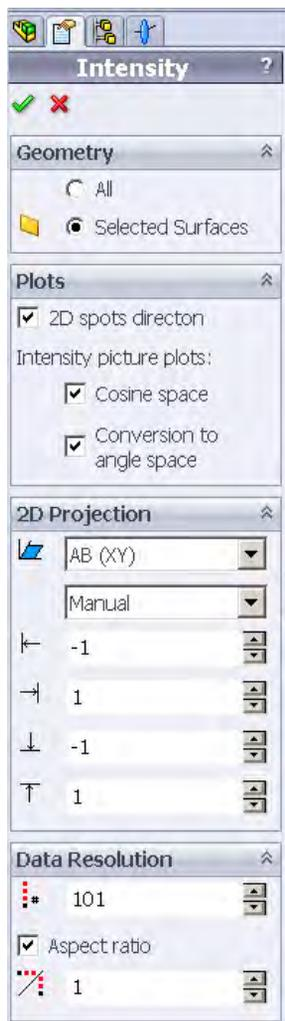

Figure 92 Intensity PropertyManager with selected options
- 18 Click the front surface of the target if it is not highlighted, and then click **Selected Surfaces** under **Geometry** on the Intensity PropertyManager. See Figure 92.